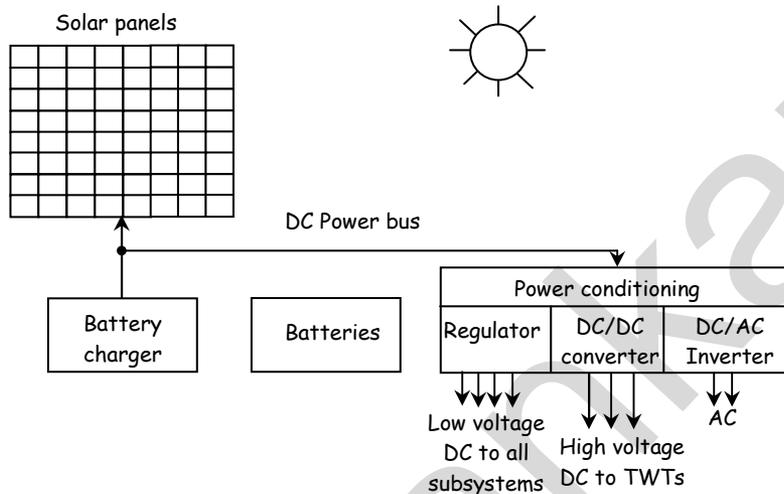

Fig. 1
- Fig. 1 shows the power subsystem.